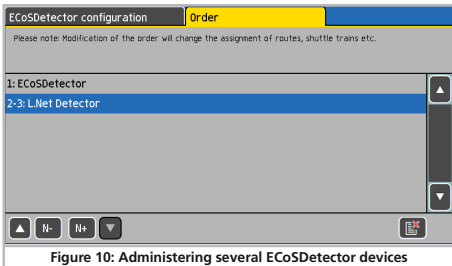

Figure 10: Administering several ECoSDetector devices
- Simply press the tab “Admin” in the configuration menu. A window similar to Fig. 10 will open.